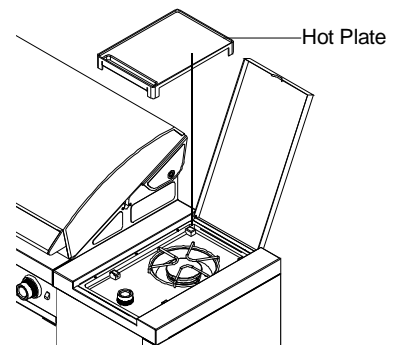

Fig.3
- Remove the Grease Tray Bracket. Make sure threading two Electric Wires through the holes on the underside of Control Panel and Right Cabinet Panel (see Fig.2), push the plug of Fuel Gauge Display into the Socket of the connector wire and push the Plug of Battery Box into Socket of LED Light Wire Set. (see Fig.3)
- Place the Hot Plate onto the Side Burner.see Fig.3